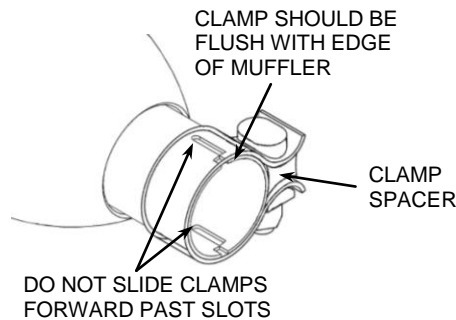

FIGURE 2
8. Check alignment of front and rear mufflers and make sure they are parallel and crossover slips remain engaged. Tighten mufflers to mounting bracket. Tighten headpipe flange nuts. Tighten muffler clamps. (NOTE: The muffler clamps should be flush with the end of the muffler when tightened. See **Figure 2**. If the muffler clamps are slid forward past the slots on the slip collar the clamps will not tighten the mufflers properly. Also, make sure the clamp spacer is not over the slots. The slots need to be covered by the clamp band so that it seals the slots properly. Rotate the clamp if necessary).